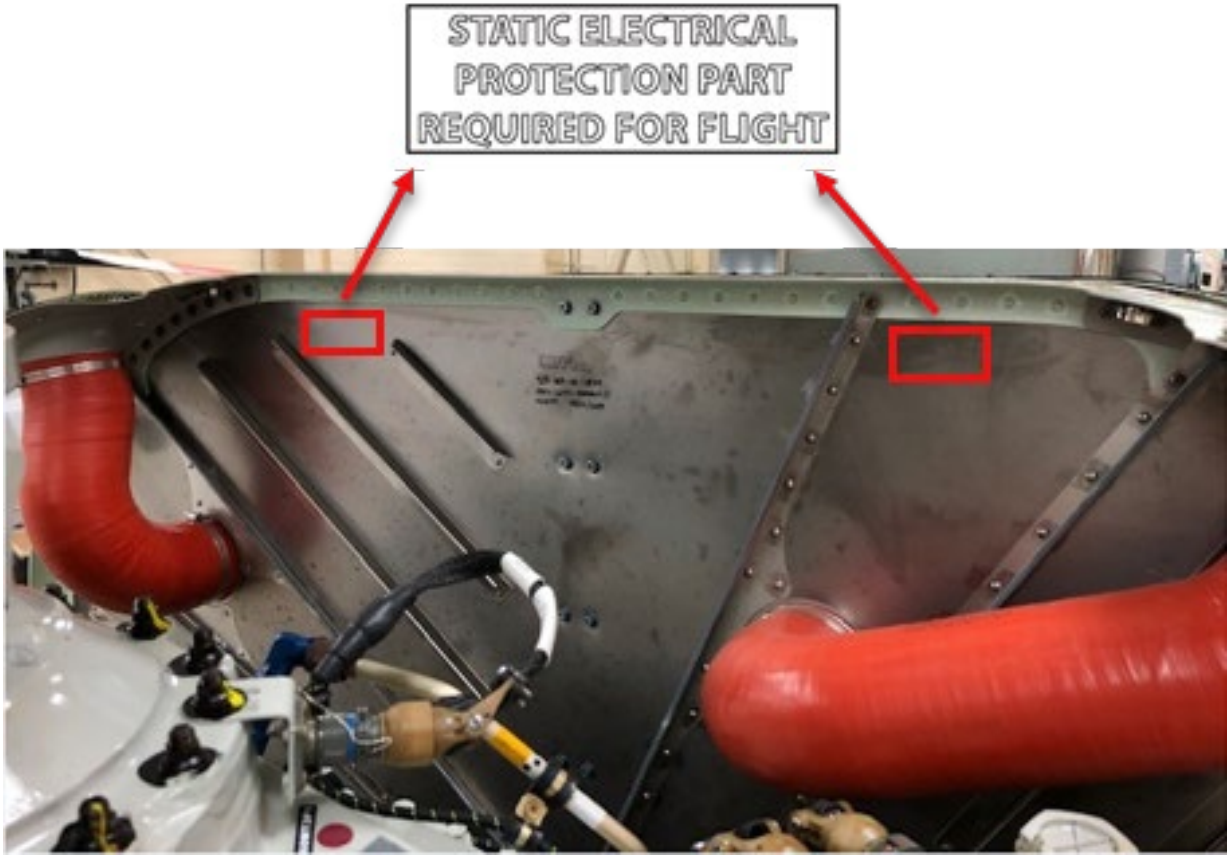

Figure 1 –Missing Decal on Forward Firewall
3. Check for the presence of two decals 31-055-19DMHP on the forward firewall 429-069-101-187 per figure 1. If the decals are present, go to step 5.
Locations of the decals are shown in figure 1. They need to be clearly visible after installation. The receiving surface must be free of dirt, grease, wax and other contaminants.